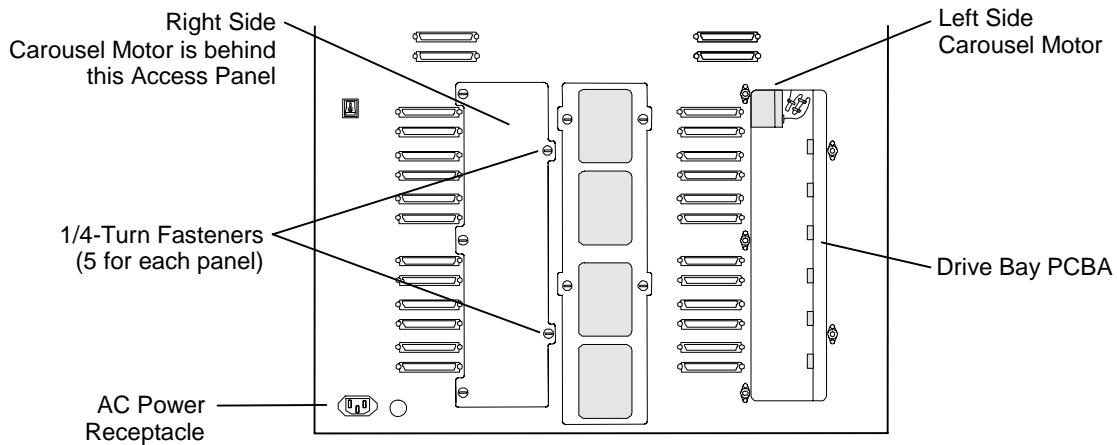

Figure 7-43 Carousel Motor Behind Access Panel
- Using a flat-blade screwdriver, remove the appropriate Access Panel at the rear of the TLS by turning its five quarter-turn fasteners counter-clockwise (Figure 7-43).
- Remove the Carousel Motor from the cabinet through the Access Panel opening (Figure 7-43).
- Align the Access Panels five quarter-turn fasteners with the corresponding receptacles on the rear panel, then fasten it by turning the quarter-turn fasteners clockwise (Figure 7-43).